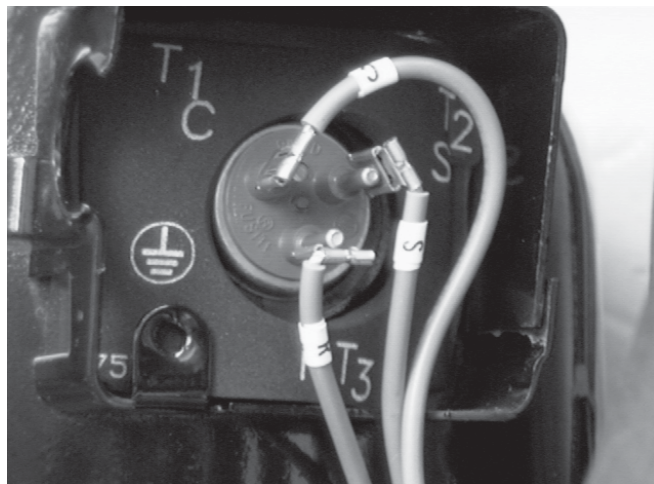

Figure 34. Electrical Wires
2. Identify and remove the three wires. Figure 34.